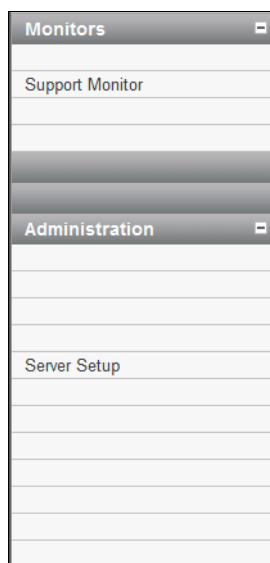

Figure 14-21 Console navigation bar
- The navigation bar (Figure 14-21) on the left hand side of the console window allows you to select either the Support Monitor view or the Server Setup view.